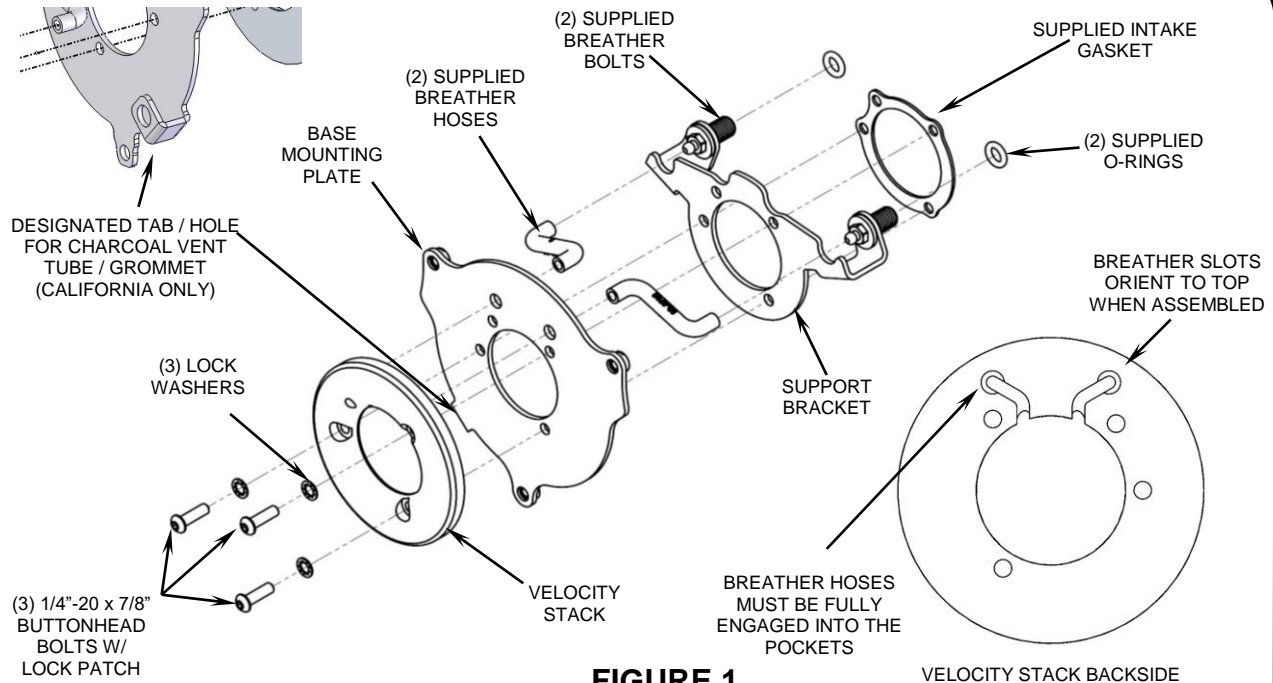
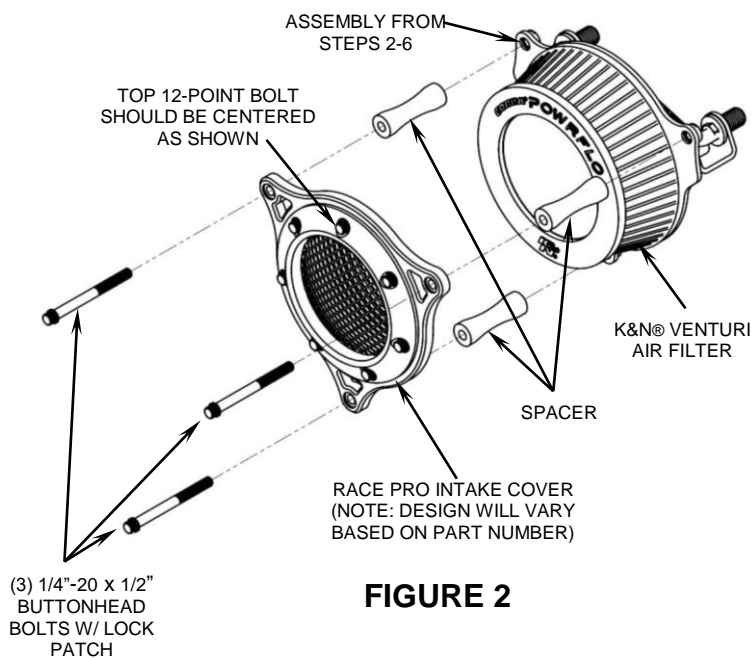

FIGURE 1
FIGURE 2
1. Remove the (2) allen bolts from the center of the stock air cleaner to remove the cover. Remove the (3) bolts securing the air filter. Remove the stock (2) breather bolts from the cylinder heads. Discard the air box, air filter, hardware and seals/gaskets.
3. Insert the (2) supplied breather hoses through the mounting plate and into the velocity stack with the hoses rotated outward, as shown in **FIGURE 1**. Make sure the breather hoses are bottomed out in the back of the velocity stack.
*NOTE: California models will need to install the vent tube grommet into the designated hole in the mounting plate, see **FIGURE 1**.*
4. Insert (3) supplied 1/4"-20 x 7/8" buttonhead bolts with lock washers through the mounting holes in the velocity stack and base mounting plate, then position on top of the installed support bracket (Step 2), and start threading the buttonhead bolts into the throttle body, but do not tighten. See **FIGURE 1**.
5. Snug the (3) buttonhead bolts evenly, and then fully tighten them to the throttle body. Fully tighten the (2) breather bolts from Step 2.
8. Place the RACE PRO intake cover over the air filter so that there is a 12-point bolt centered between the top two mounting holes. See **FIGURE 2**.
9. Insert the 2-3/4" long 12-point bolts through the 3 outer holes in the intake cover and through the spacers to the base mounting plate threaded holes. See **FIGURE 2**. Snug the (3) bolts evenly until the intake cover tightens down onto the spacers. Then tighten the bolts securely.